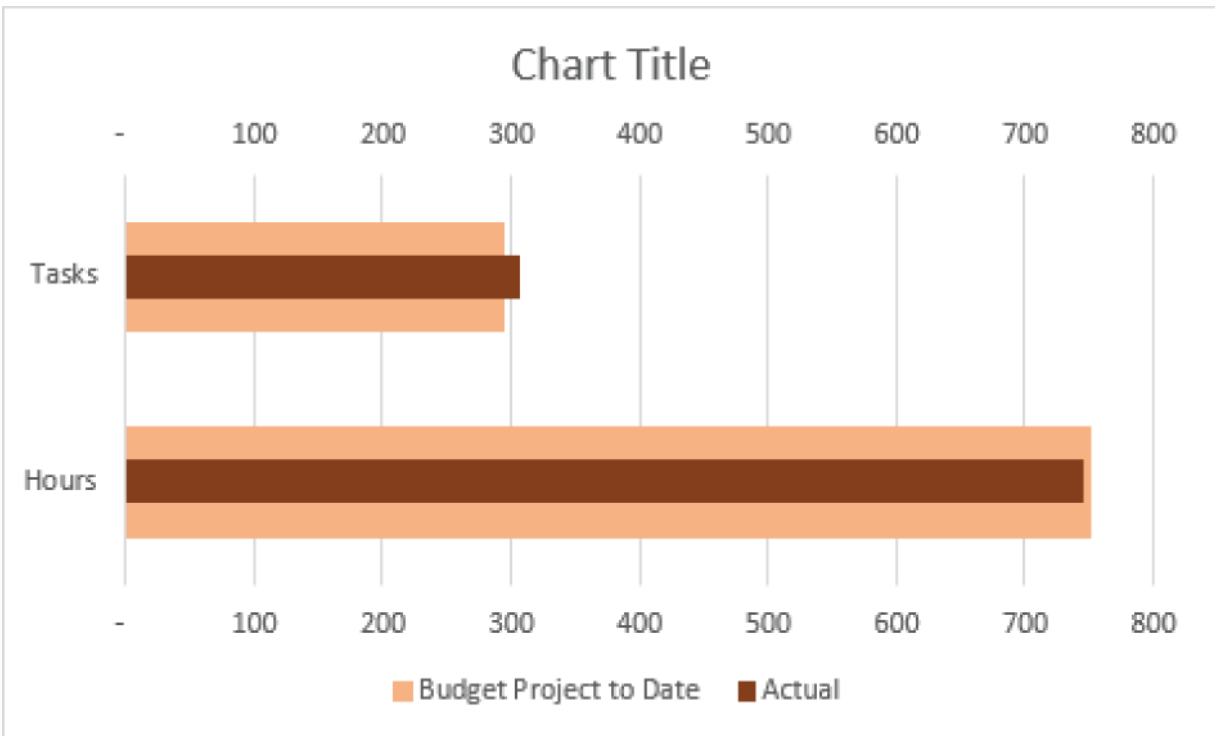

Figure 2.8: Overlapping bar charts
10. Click the Budget series and change Gap Width to **90%**, change Fill for the Budget series to Solid, and set the color to a light orange. Figure 2.8 shows the chart after these changes have been made.